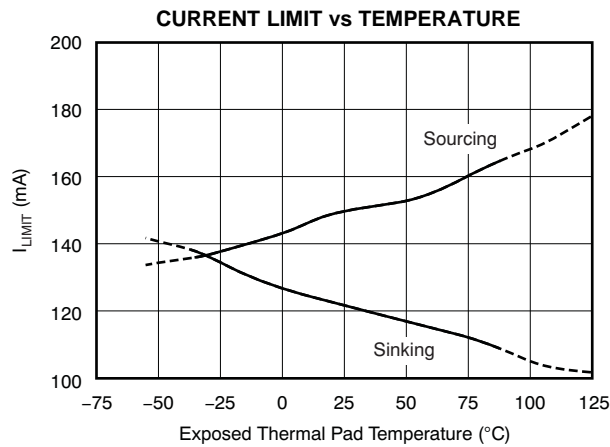

Figure 24.
(10) Measured using low-frequency (<10Hz) $\pm 49V$ square wave. See typical characteristic curve, *Current Limit vs Temperature* (Figure 24).